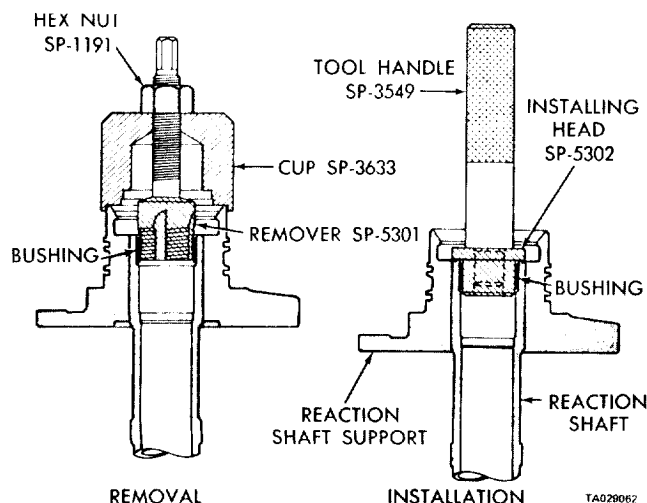

Figure 18-11. Replacing Reaction Shaft Bushing.
(1) Assembly remover tool SP-5301, cup tool SP-3633, and hex nut tool SP-1191 (figure 18-11).